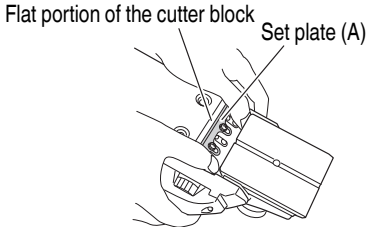

Fig. 23
- (5) As shown in Fig. 23, 24, insert a turned portion of set plate (A) attached to set plate (B) into a groove on the flat portion of the cutter block.